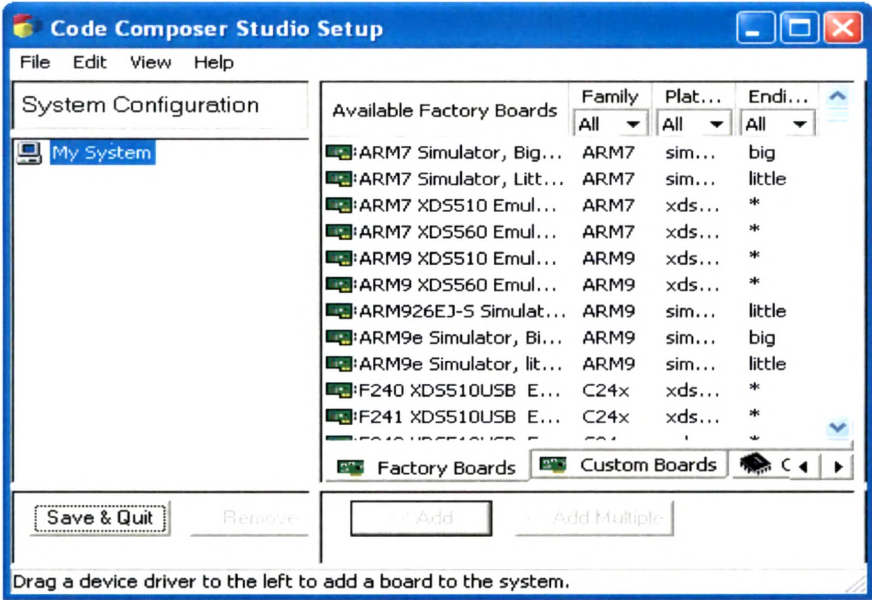

Fig. 6.2 CCS setup
Step 1 : Open CCSSTUDIO Setup as shown in Fig. 6.2.